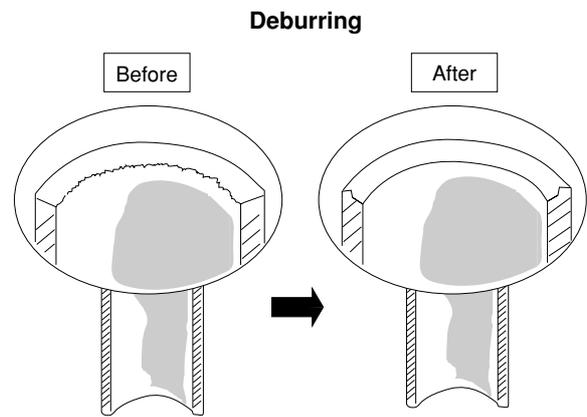

Fig. 6-1
- (1) Cut the copper tube to the required length with a tube cutter. It is recommended to cut approx. 30 – 50 cm longer than the tubing length you estimate.
- (2) Remove burrs at the end of the copper tube with a tube reamer or file. This process is important and should be done carefully to make a good flare. (Fig. 6-1)